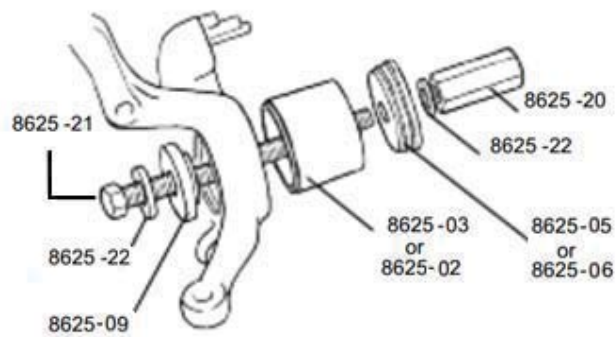

Figure 1
2. Assemble the tool components as shown in Figure 1, and press out the worn bearing.